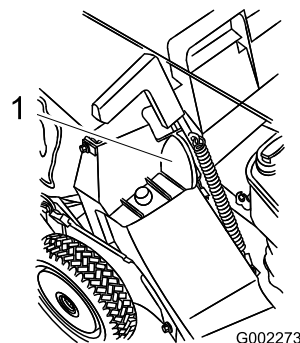

Figure 20
5. Pull the discharge door handle forward until the pin clears the catch, and move the handle rearward until the pin locks in the bag notch (Figure 20).